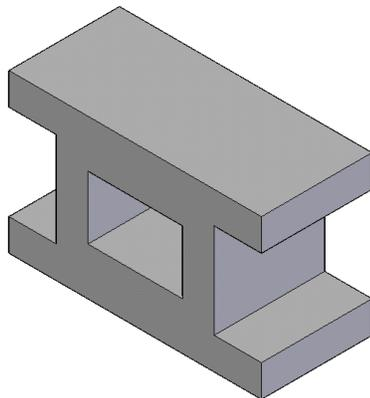
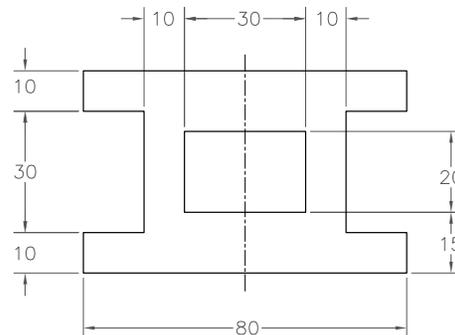

Figure 3-33 Model for Tutorial 1
Figure 3-34 Profile to be drawn for Tutorial 1
In this tutorial, you will draw the profile of the model shown in Figure 3-33. The profile shown in Figure 3-34 should be symmetric about the origin. You need not use the edit boxes available in the command bar to enter the values of the entities. Instead, you can use the parametric dimensions to complete the sketch. **(Expected time: 30 min)**
3. Click on the graphics window to create a rectangle. Refer to Figure 3-34 for the location of the rectangle.